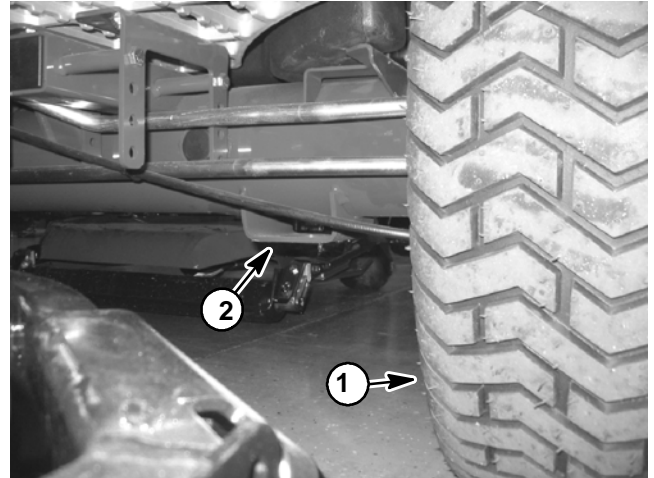

Figure 1
2. Position jack securely under the rectangular pad on the frame axle tube, just to the inside of the front wheel (Fig. 1).